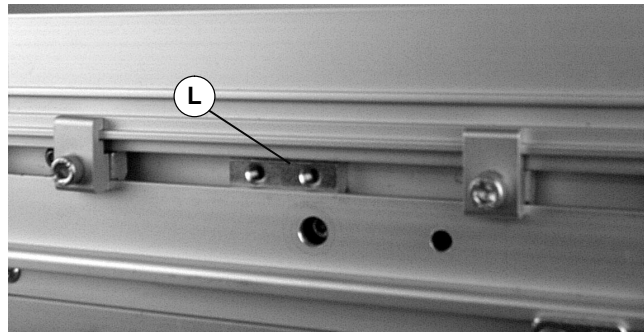

Figure 5
2. Install T-bar (L of Figure 5) in each side of conveyor.